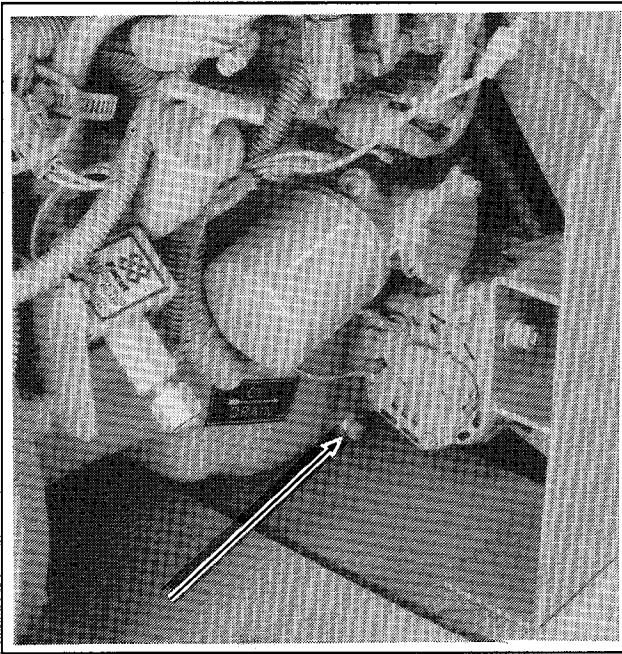

Figure 3-3. Engine Oil Drain
1. Place a suitable container beneath engine oil drain plug. See Figure 3-3.